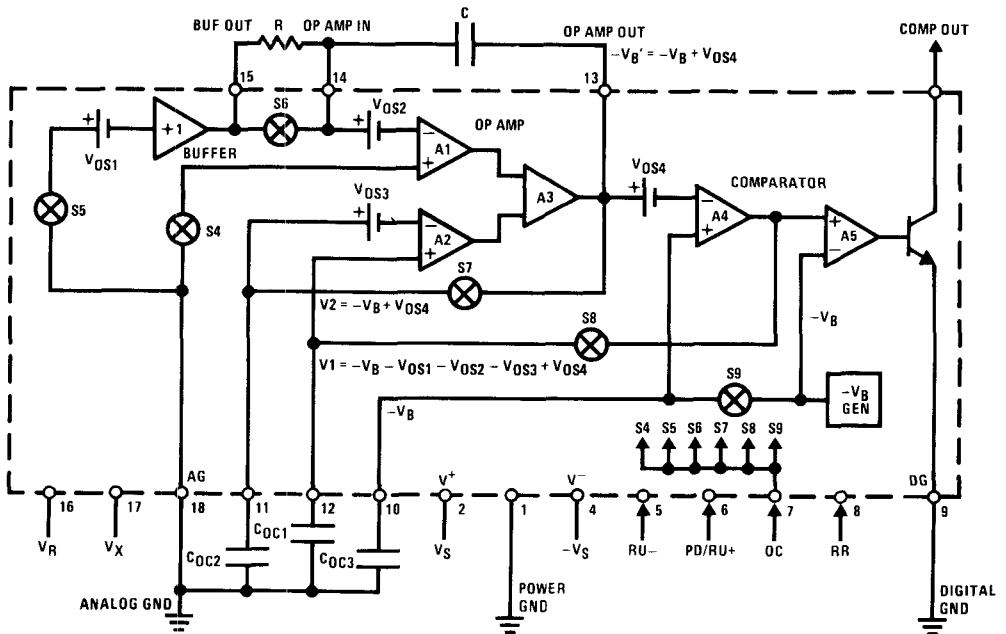

FIGURE 1. Offset Correction Circuit
### Offset Correction Description (Figure 1)
**Initialization (Figure 1)**